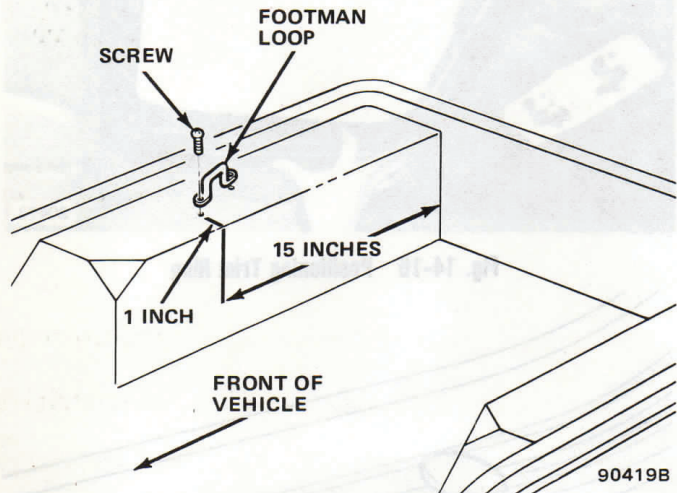

Fig. 14-18 Footman Loop Location—CJ-7 Models
(1) Open tailgate and raise carpet (if equipped) to expose top of rear wheelhouses.
(2) Using tailgate latch pad as a starting point, measure 15 inches forward along inboard edge of rear wheelhouse. Mark this location and, using it as a reference, measure 1 inch from edge and mark location (fig. 14-18).